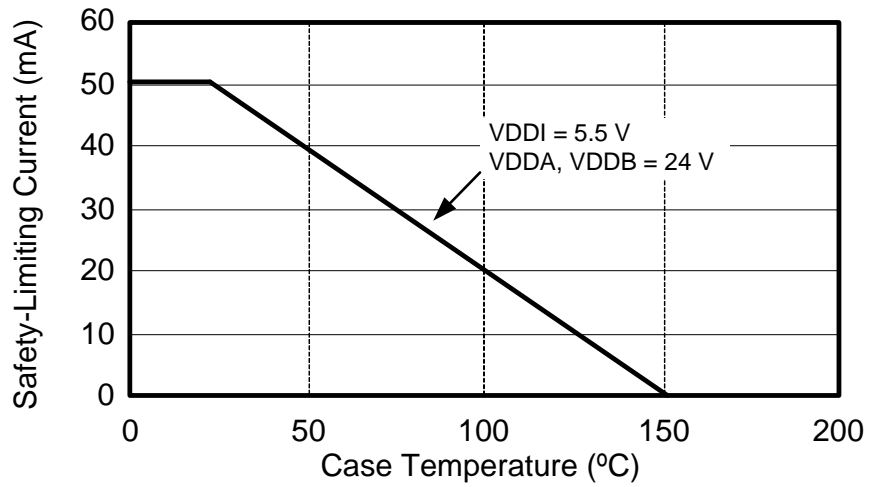

Figure 6. WB SOIC-16, NB SOIC-16, 14 LD LGA Thermal Derating Curve, Dependence of Safety Limiting Values with Case Temperature per DIN EN 60747-5-2
- Maximum value allowed in the event of a failure. Refer to the thermal derating curve in Figures 6 and 7.